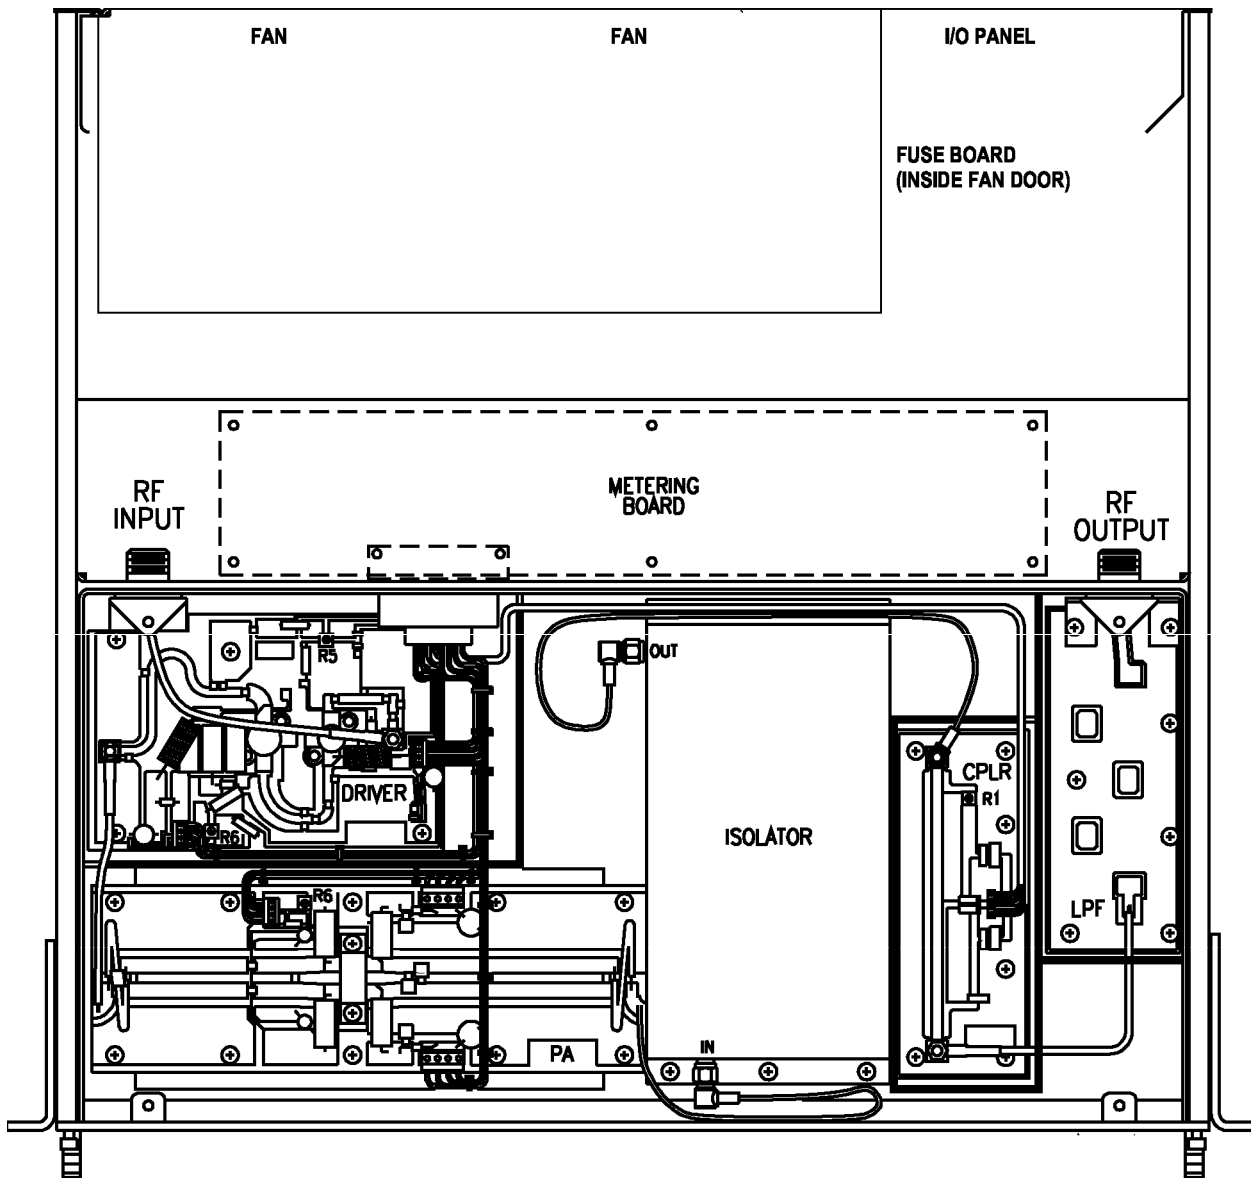
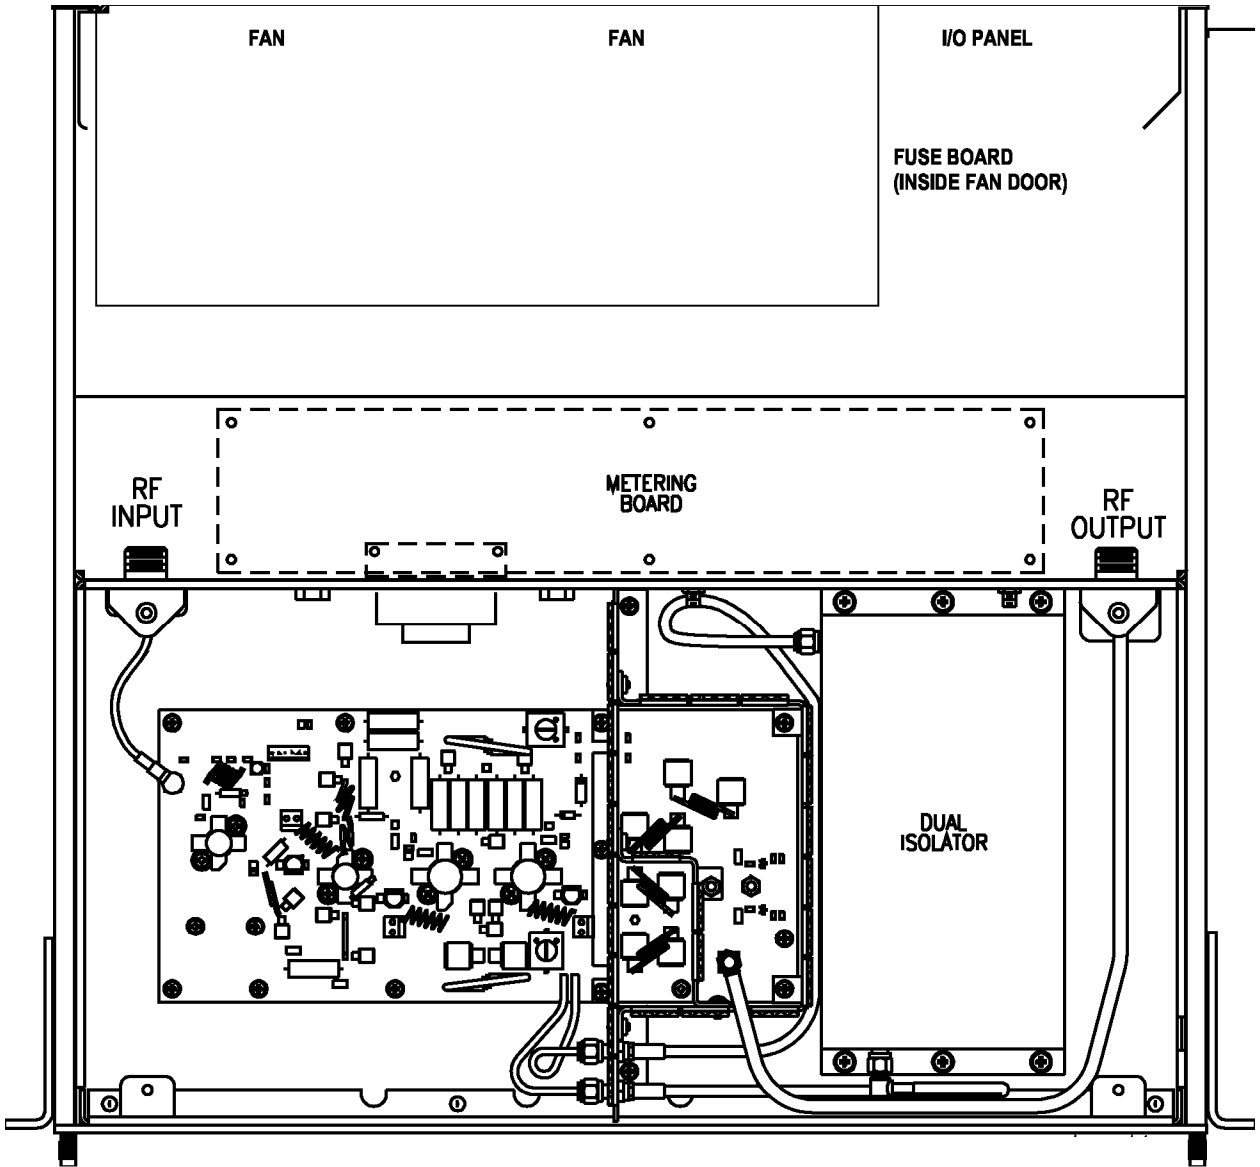

Figure 3-2 GL-T8411E PA Top View
Figure 3-3 GL-T8311E PA Top View
- Refer to *Figure 3-2, ISC-T8411 E PA Top View*, or *Figure 3-3, ISC-T8411 E PA Top View*. Positive identification can be done by removing the PA top cover since each transmitter has a unique PA compartment.